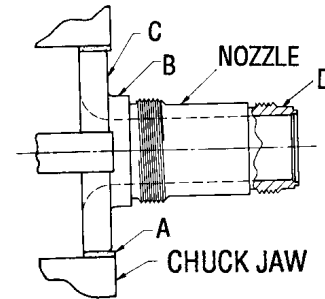

FIGURE 29
The nozzle should be removed from the valve to be machined (see Figure 29). See Nozzle Removal Instructions in paragraph VII.B.14. If it can not be removed from the base, it should be machined inside the base.
- a. Grip the nozzle in a four-jaw independent chuck, using a piece of soft material such as copper or fiber between the jaws and the nozzle as shown at A in Figure 29.